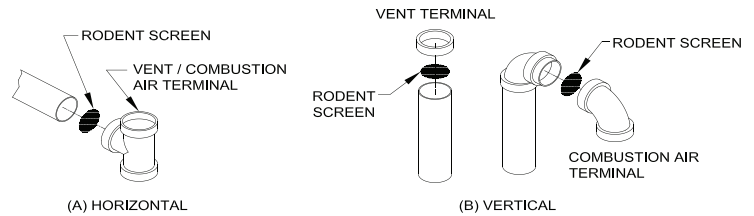

Figure 13: Rodent Screen Installation
- Install rodent screen and vent terminal (supplied with boiler). See Figure 13 for appropriate configuration details.
- Install rodent screen and combustion air terminal (supplied with boiler). See Figure 13 for appropriate configuration details.
- Install rodent screen and vent terminal (supplied with boiler), see Figure 13 for appropriate configuration.
air terminal (supplied with boiler). See Figure 13 for appropriate configuration.
- Install rodent screen and vent terminal (supplied with boiler). See Figure 13 for appropriate configuration.
- Install rodent screen and combustion air terminal (supplied with boiler). See Figure 13 for appropriate configuration.